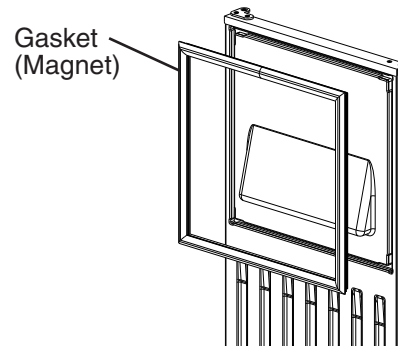

**Fig. 8**
f) Remove hinge (C1) from the top right part of the door, flip it and reattach to the bottom left. Remove hinge (C2) from the bottom right part of the door, flip it and reattach to the top left. See Fig. 8. Proceed to step 7.